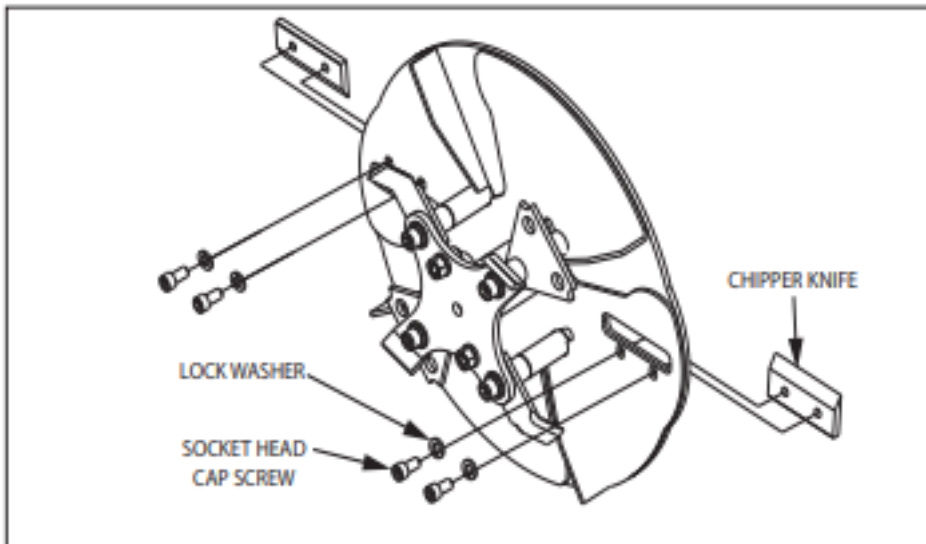

FIGURE 16 - Removing the Chipper Knives
5. Using a hex wrench, remove the two socket head cap screws and the chipper knife. SEE FIGURE 16